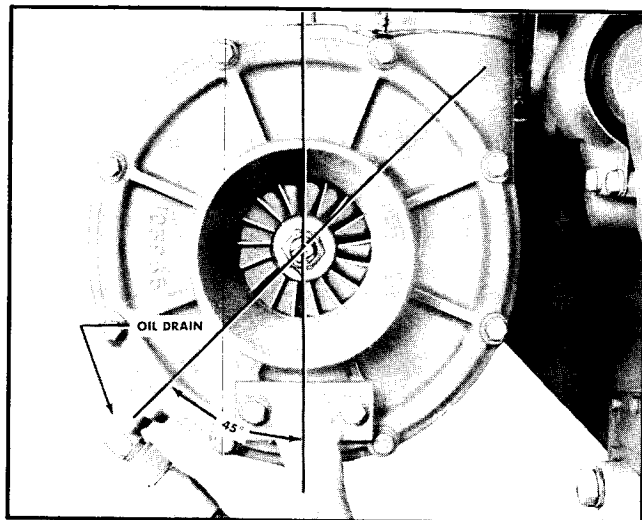

Fig. 4-6. Oil drain position
1. Check position of lubricating oil drain (large boss). Oil drain must always be down or within 45° of that position when turbocharger is mounted on the engine. Fig. 4-6.